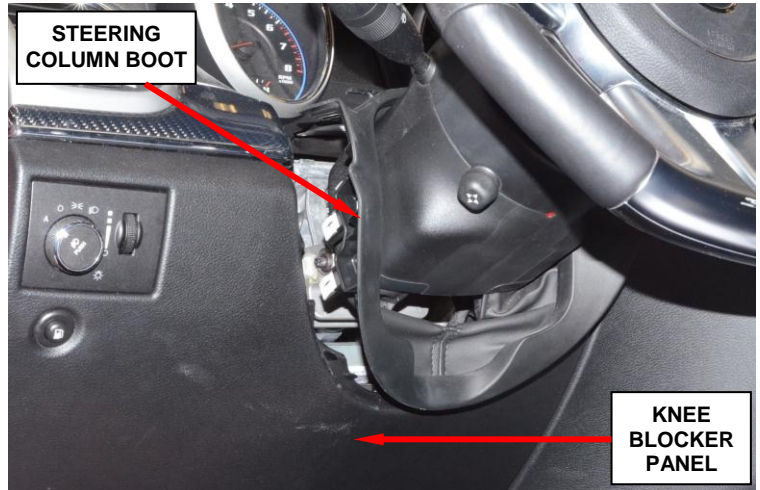

Figure 8 – Steering Column Boot
14. Disengage the steering column boot (Figure 8).
15. Remove and save the lower knee blocker panel (Figure 8).
29. Install the steering column boot (Figure 8).